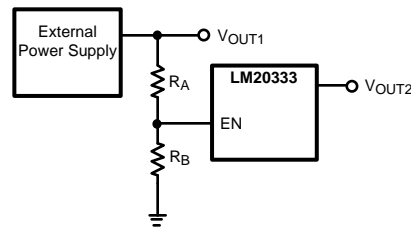

Figure 29. Sequencing LM20333 with Precision Enable
The precision enable (EN) and power good (PGOOD) pins of the LM20333 can be used to address many sequencing requirements. The turn-on of the LM20333 can be controlled with the precision enable pin by using two external resistors as shown in Figure 29 .